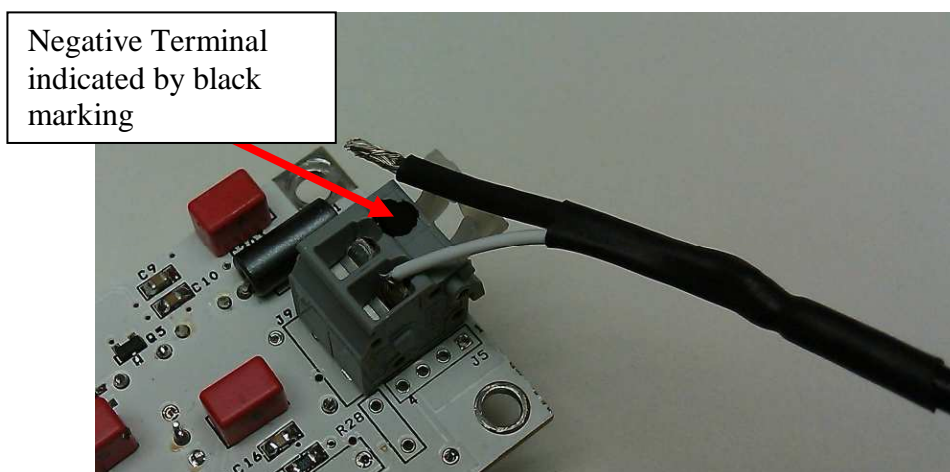

Figure 1: Probe Assembly Lead Attachment
- g) On the circuit board, push the terminal clamps down and insert the new wire leads making sure the black wire lead is installed in the terminal indicated with black paint. (See Figure 1)